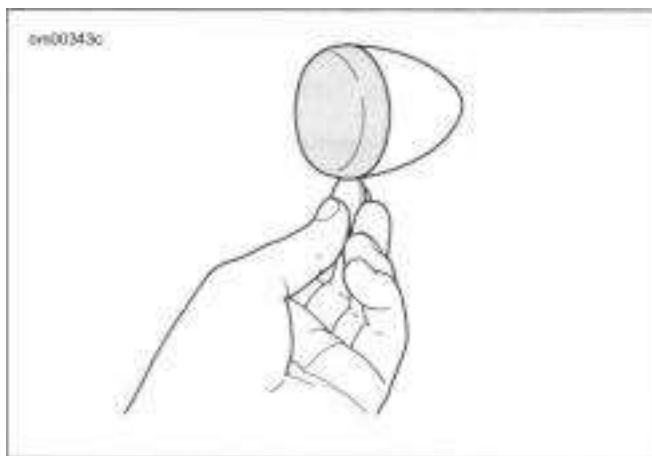

Figure 7-77. Remove Lens
1. See Figure 7-77. Replace bulb.